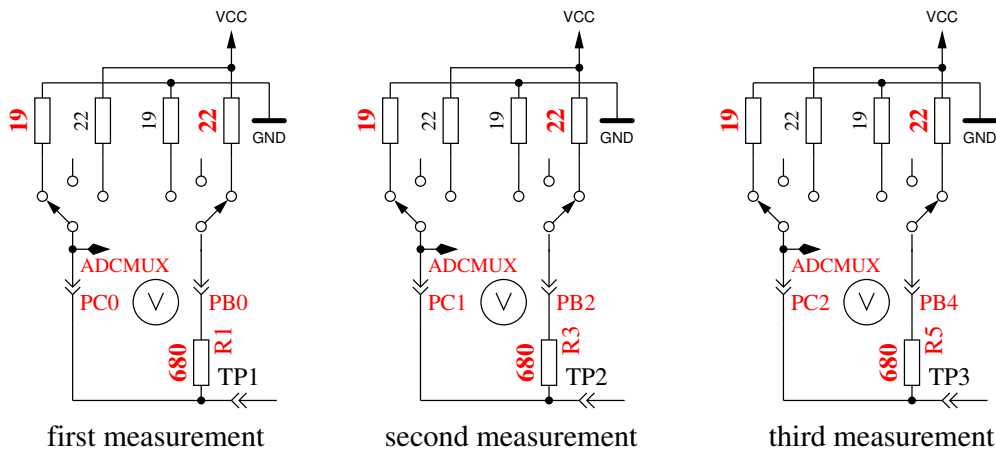

Figure 5.37: Measurement of internal resistance of Port C switched to GND
5. **This step tests the capability of GND (-) connected 470kΩ resistors (H) to pull the test pins to GND.** Row 1 shows the text “RH-”. Row 2 should display zero for all three pins.
6. **This step tests the capability of VCC (+) connected 470kΩ resistors (H) to pull the test pins to VCC (+).** Row 1 shows the text “RH+”. The results are shown als difference to VCC and should be near zero. Great differences from the best value for test 5 and 6 are errors such as isolation problem, flux material or damaged port.
7. **Measuring of internal resistance of pin output switched to the GND signal.** The text in the 1st LCD row is “Ri.Lo = (mV)”. In the second row of the LCD three voltages were displayed. The internal resistance of the port C outputs switched to GND (-) are measured with the current of to VCC (+) switched 680Ω resistors, see Figure 5.37. Only the three pins of the ADC port are measured, the resistor port B (PB0,PB2 and PB4) can not be measured without hardware modification. Is is assumed that the port resistance of the different ports are nearly identical. To get the resistor values, you must divide the displayed mV values by about 7 (see test 8).